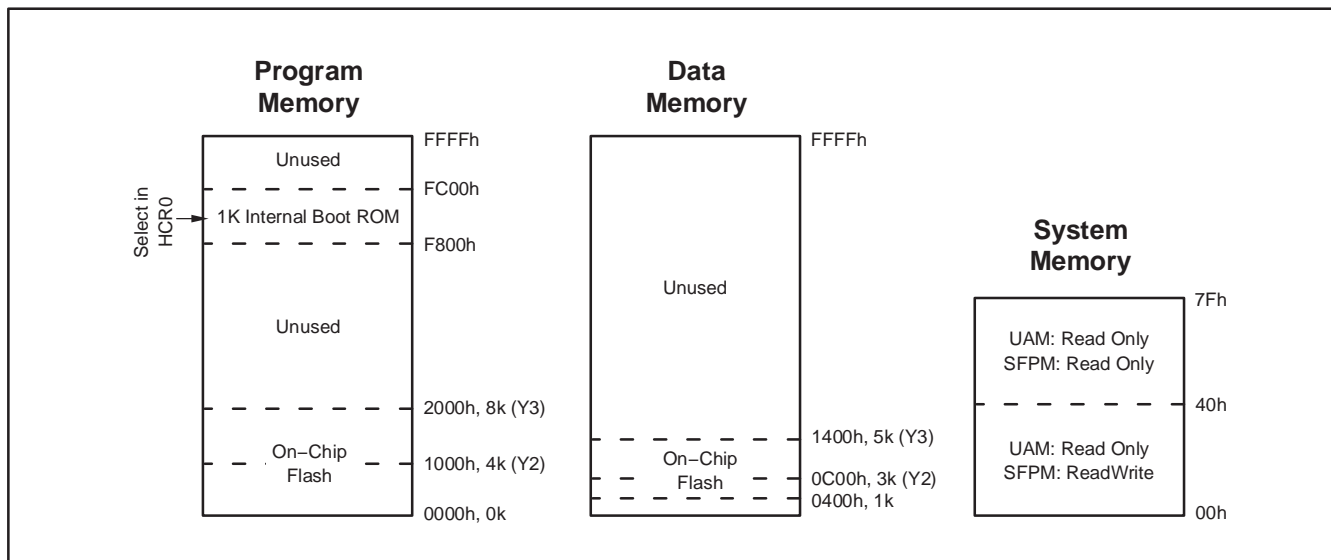

Figure 20. Memory Map
The MSC1201/02 allow the user to partition the Flash Memory between Program Memory and Data Memory. For instance, the MSC1201Y3/MSC1202Y3 contain 8kB of Flash Memory on-chip. Through the HW configuration registers, the user can define the partition between Program Memory (PM) and Data Memory (DM), as shown in Table 3, Table 4, and Figure 20. The MSC1201/02 families offer two memory configurations.
As part of the lower 128 bytes of RAM, there are four banks of Working Registers, as shown in Figure 20. The Working Registers are general-purpose RAM locations that can be addressed in a special way. They are designated R0 through R7. Since there are four banks, the currently selected bank will be used by any instruction using R0–R7. This allows software to change context by simply switching banks. This is controlled via the Program Status